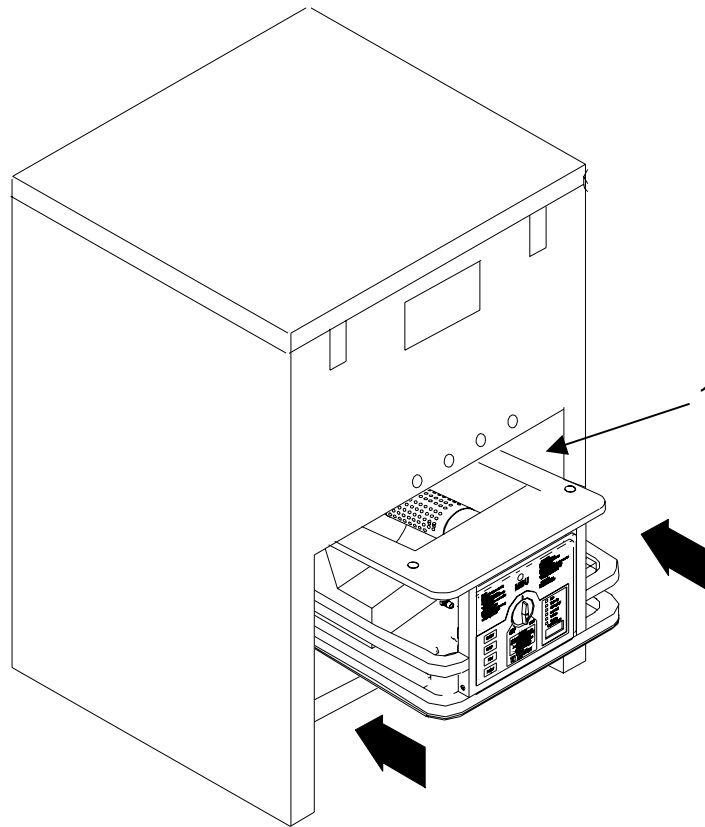

Figure 1. Installing MBU Into An Appliance
The MBU will fit into all field kitchen appliances designed to accommodate an external burner that are found in current and future field feeding systems. It slides into the burner space (**figure 1, item 1**) of the appliances it is intended to be used with in the same manner as the previously used M2 Burner. Install the MBU into its appliance after performing Before Operation PMCS and after filling the tank (unless power fueling is intended).